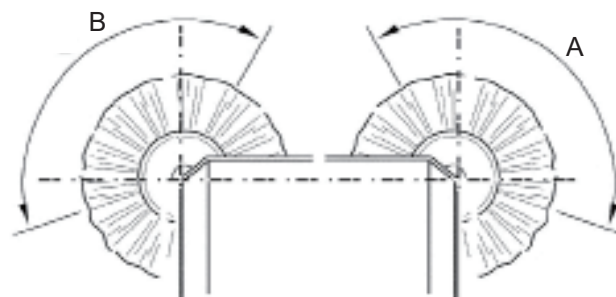

Figure6
-Check that the side brush prints are as shown in the figure (A and B, Fig. 6).